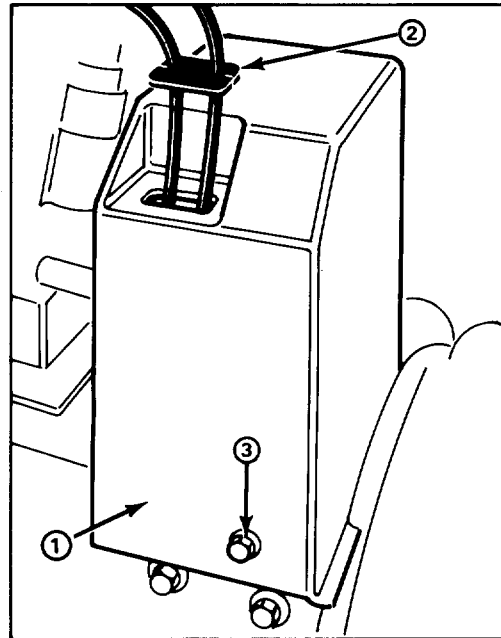

Figure 3
8. Mount upper belt cover to engine frame with (3) 1/4-20x1/2" lg. flange head capscrews (Fig. 3).
9. Slide cable cover onto cables and into hole in belt cover (Fig. 3).